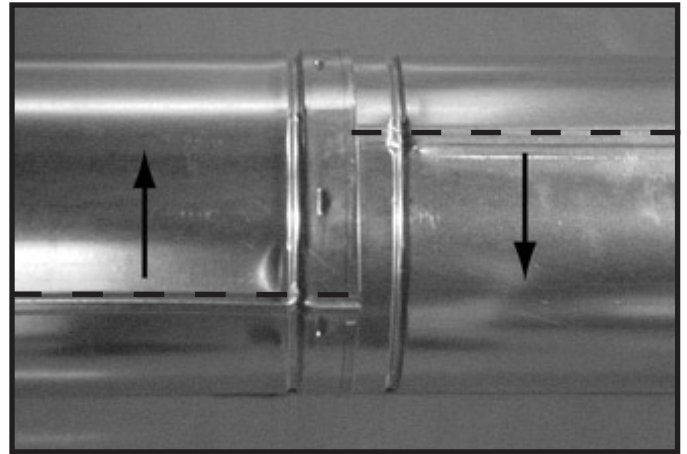
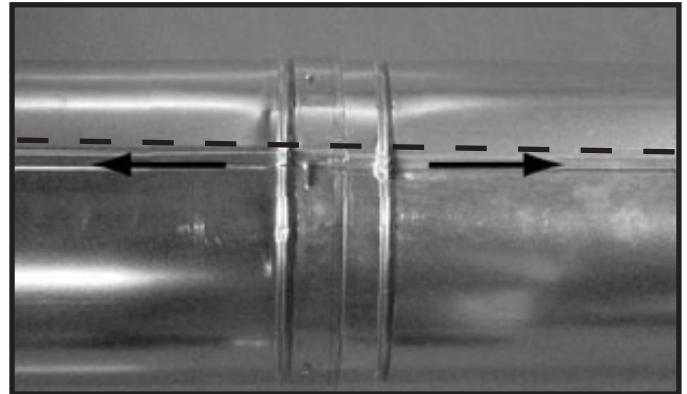

Figure 7.10 Rotate Seams for Disassembly
Figure 7.11 Align and Disassemble Vent Sections
- Rotate either section (see Figure 7.10) so the seams on both pipe sections are aligned as shown in Figure 7.11